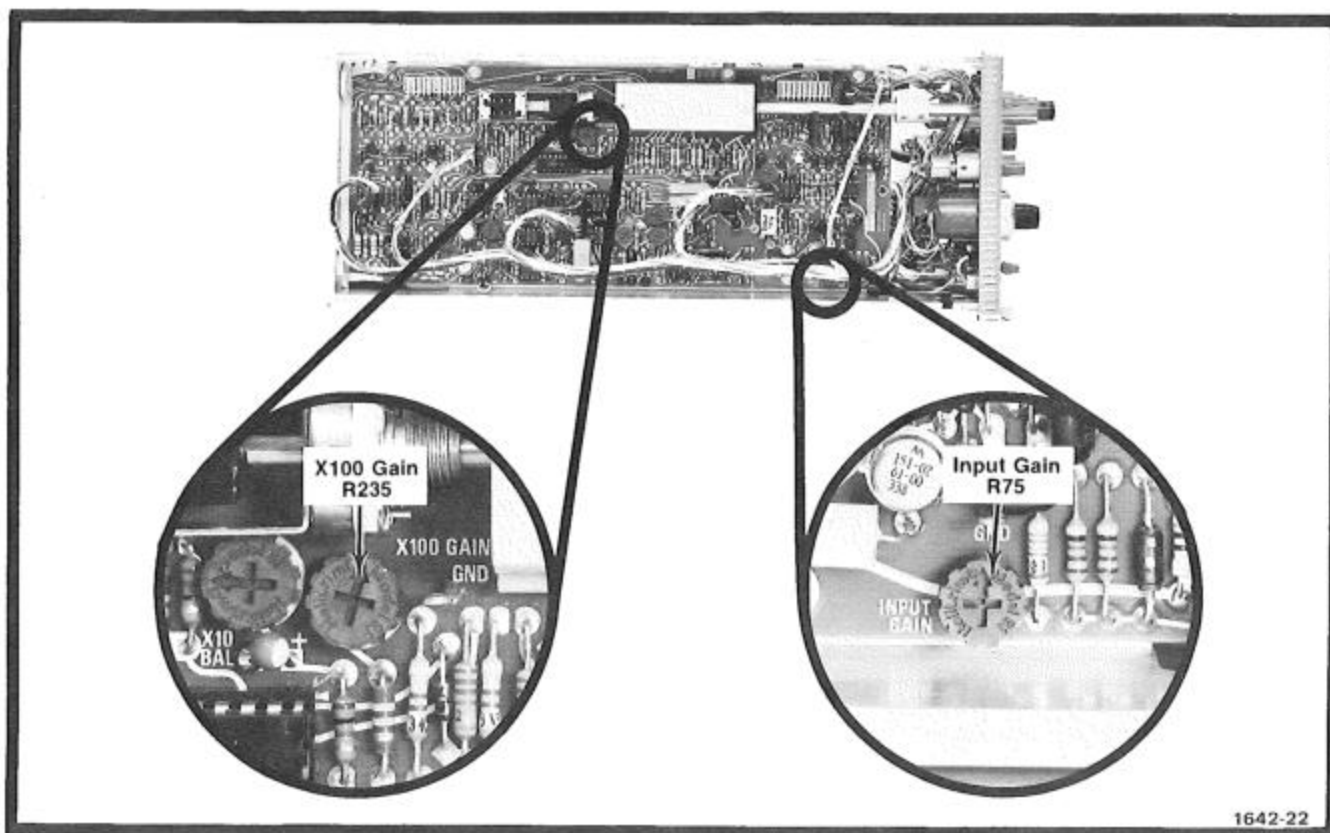

Fig. 5-17. Location of Input Amplifier gain adjustments.
o. ADJUST—Input Gain R75 (see Fig. 5-17) for exactly 5 divisions of vertical deflection.
w. ADJUST—X100 Gain R235 (see Fig. 5-17) for exactly 5 divisions of signal amplitude in the spectrometer display.